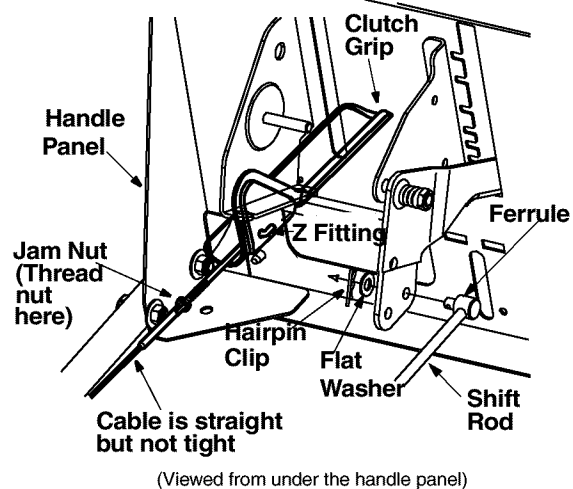

Figure 29
- If adjustment is necessary, loosen the jam nut on the traction drive cable and thread the cable in or out as necessary. See Figure 29. Tighten the jam nut to secure the cable when correct adjustment is reached. Reassemble the frame cover.
hole in the shift lever. See Figure 29.